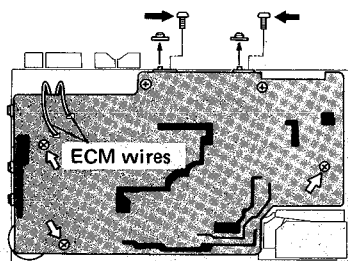

Fig. 9
- 3) Raise the circuit board in the direction of the arrow. (See Figure 9.)